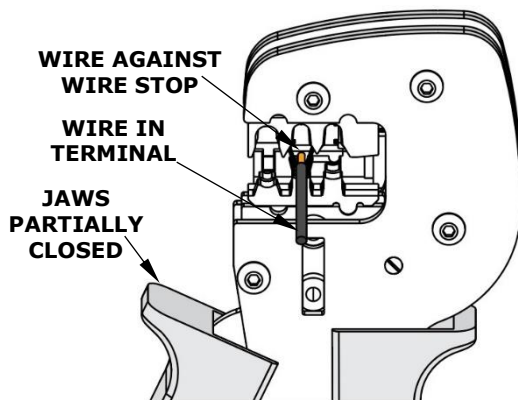

Figure 3
2. Insert the proper pre-stripped wire over the terminal. Gently touch the wire stop with the end of the wire. See Figures 3 and 4.